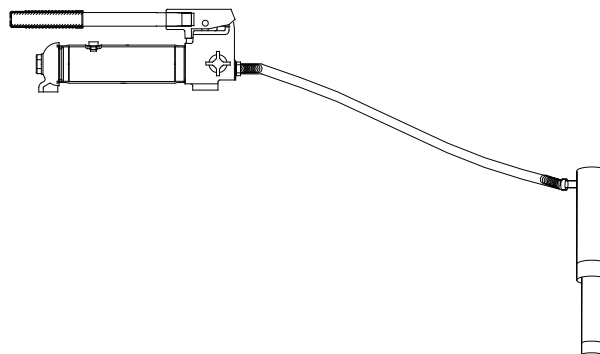

Figure 3 - Pump and ram illustration to bleed air
1. Bleed air from ram: Place pump at a higher elevation than the hose and ram as shown in figure 3 below. The objective is to “float the air bubbles up hill and back to the reservoir where they belong. Close valve and extend ram as fas as possible. Open valve fully allowing oil and air to return to reservoir. Repeat this procedure two or three times will do the trick.